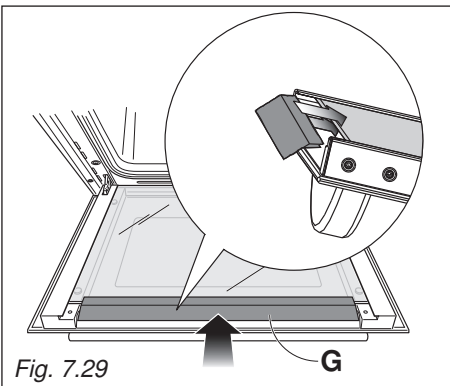

Fig. 7.29
- Gently push the air deflector "G" back into place (fig. 7.29).